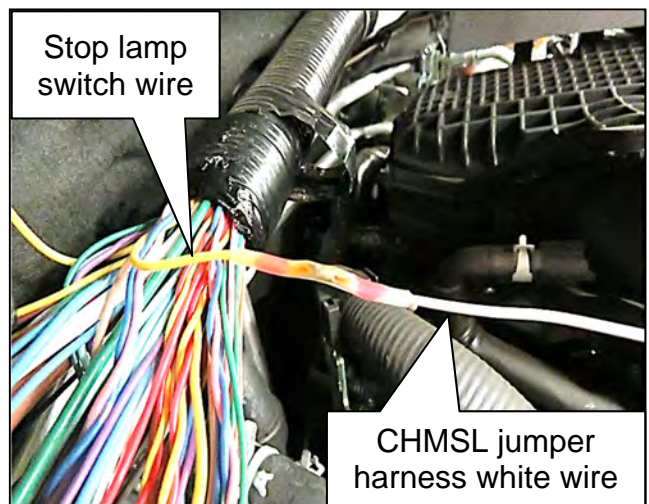

Figure 41
36. Connect the CHMSL jumper harness' white wire to the driver (LH) side stop lamp switch yellow wire end using a solder sleeve connection.
- Heat the solder sleeve, using a flameless heat gun, special tool J-46538, until the solder has been fully melted into the wires, as shown in Figure 41.